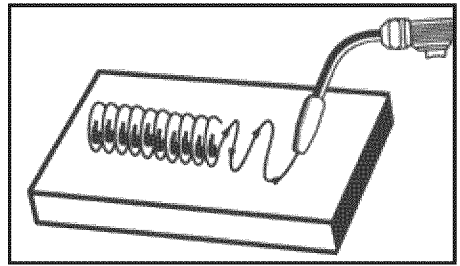

Fig. 9b
- **WEAVE BEAD** Used when you want to deposit metal over a wider space than would be possible with a stringer bead. It is made by weaving from side to side while moving with the torch. It is best to hesitate momentarily at each side before weaving back the other way. (Fig. 9b)